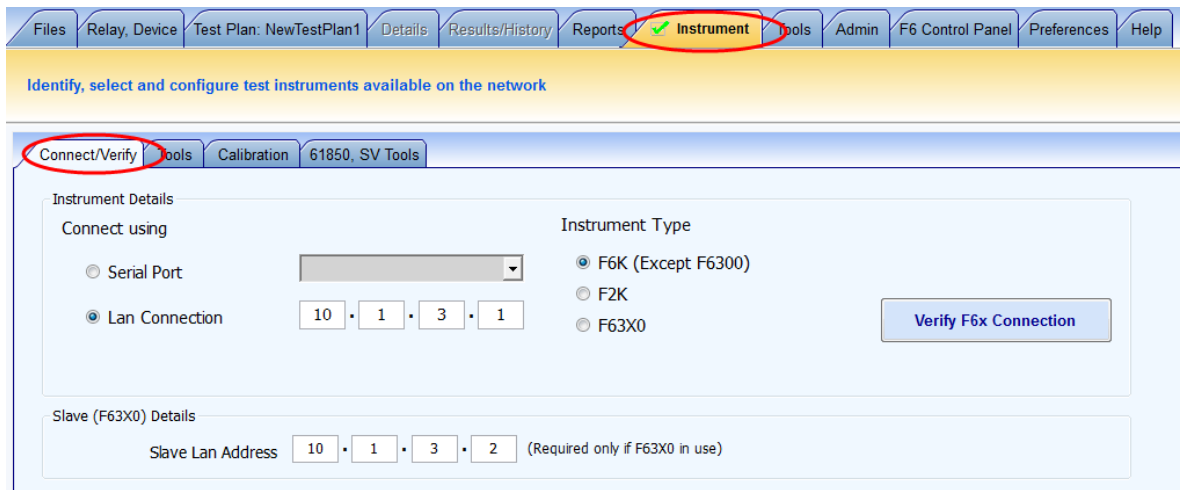

Figure 4. Connect to the F6150 instrument
16) Navigate to Instrument > Connect, Verify (format is “top tab > bottom tab;” see Figure 4)